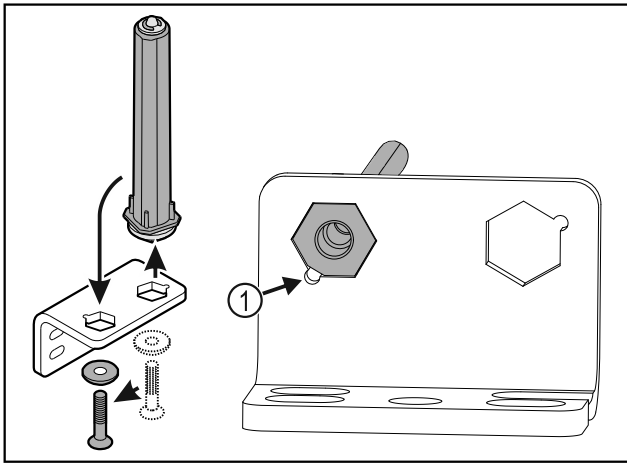

Fig. 26
- Make sure the pin chamfer Fig. 26 (1) faces the round hole when you put it in.